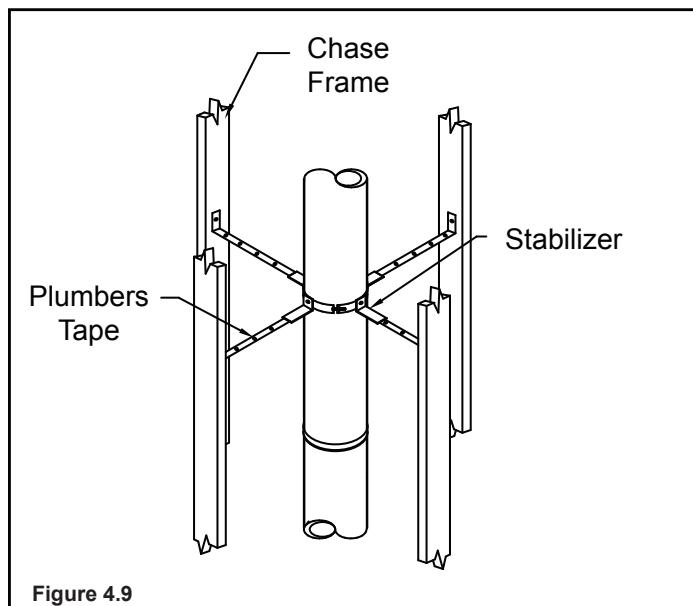

Figure 4.9
- Clamp the stabilizer to the pipe using the nut and bolt provided, and secure legs to nearby framing using plumber's tape or guy-wires (Fig. 4.9).